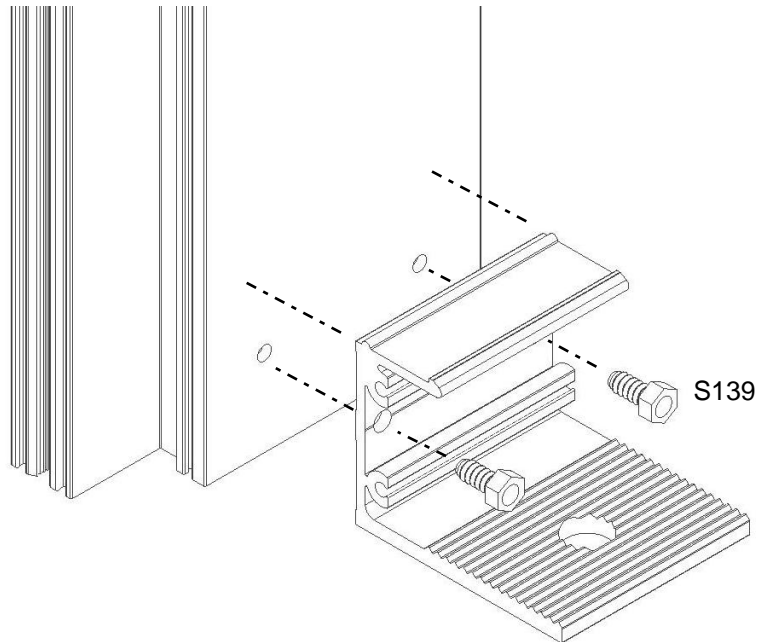

Figure 12: Fasten the sill anchor to the vertical back member.
- Fasten the sill anchor to the vertical using S139 screws and the previously drilled holes, as shown in Figure 12.